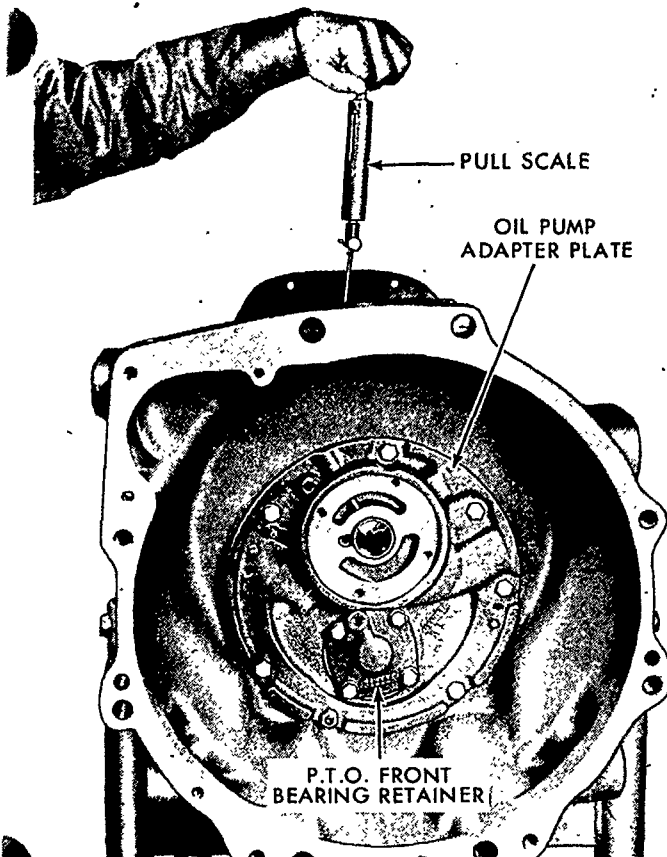

Figure 96
4. Wrap a cord around the shaft end as shown in Figure 96, and attach the end of the cord to a pull scale. The shaft should rotate under a steady pull of 18-25 lbs. (8-11.5 kg). Adjust preload as required, using the 0.002 in. (0.050 mm), 0.003 in. (0.076 mm), 0.010 in. (0.254 mm), and 0.030 in. (0.762 mm) shims which are available.